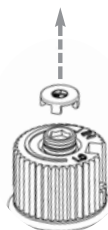

Fig. 1
- 9) Remove the black protection cap by hand from the hi-low knob (Fig. 1).